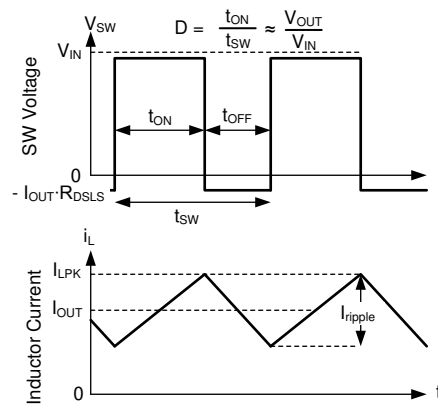

图 8-20. SW Voltage and Inductor Current Waveforms in Continuous Conduction Mode (CCM)
The following operating description of the LM6x4xx refers to § 8.2 and the waveforms in Figure 8-20. Both supply a regulated output voltage by turning on the internal high-side (HS) and low-side (LS) NMOS switches with varying duty cycle (D). During the HS switch on-time, the SW terminal voltage, V_{SW} , swings up to approximately V_{IN} , and the inductor current, i_L , increases with a linear slope. The HS switch is turned off by the control logic. During the HS switch off-time, t_{OFF} , the LS switch is turned on. Inductor current discharges through the LS switch, forcing V_{SW} to swing below ground by the voltage drop across the LS switch. The regulator loop adjusts the duty cycle to maintain a constant output voltage. D is defined by the on-time of the HS switch over the switching period: $D = T_{ON} / (T_{ON} + T_{OFF})$.